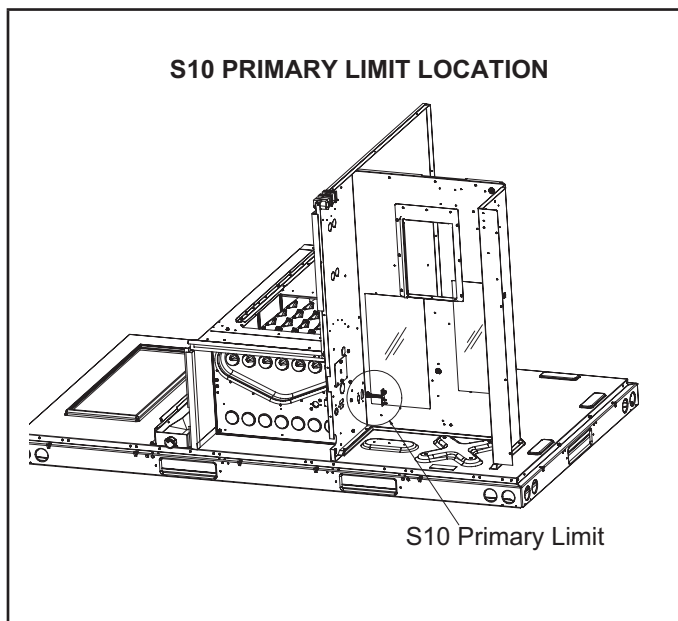
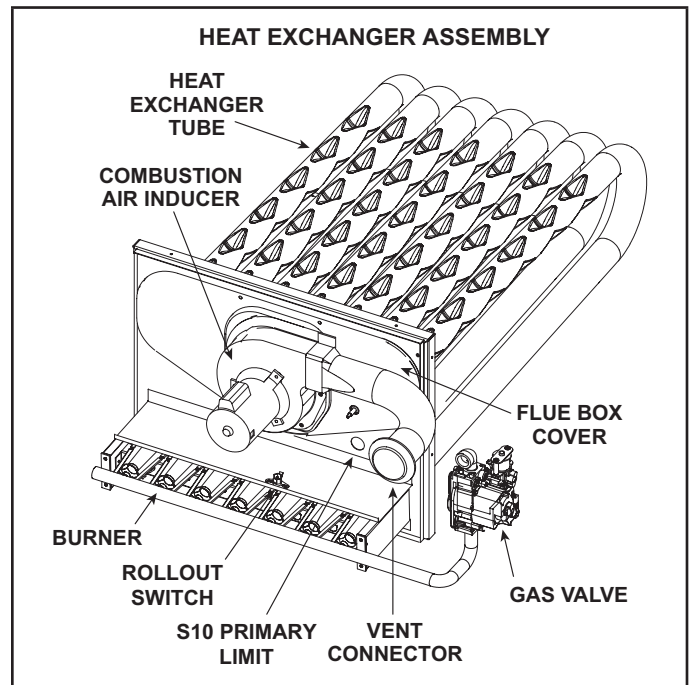

Figure 12
Figure 13
The S10 limit location depends upon the indoor blower assembly installed. S10 limit for the Direct Plus Blowers are located on the left wall in the control box area (Figure 12). This S10 limit style is a closed faced switch mounted on a 3 inch stilt. S10 limit for the ECM blowers are located on the vestibule panel in the heat access compartment (Figure 13). This S10 limit style is an open-faced button switch mounted through a 1" diameter hole.
3. Heat Exchanger (Figure 13)